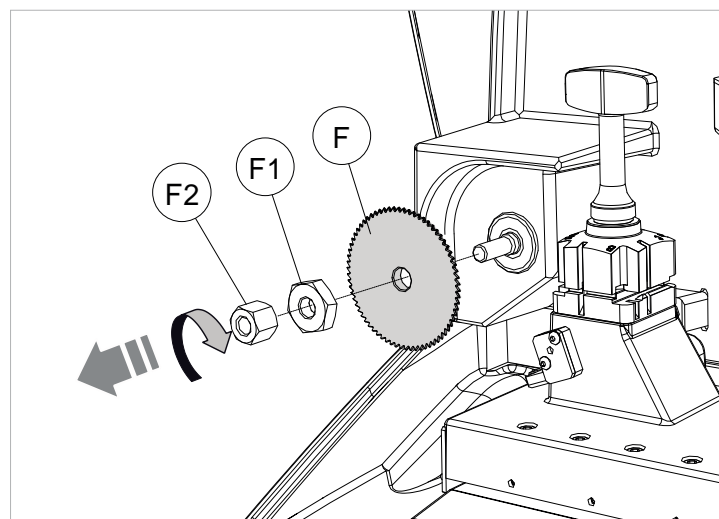

Fig. 44
- 5) Remove the nut (F2), hex washer (F1) and cutter (F) (Fig. 44).
- 7) Fit the new cutter (F), paying attention to the direction of rotation.